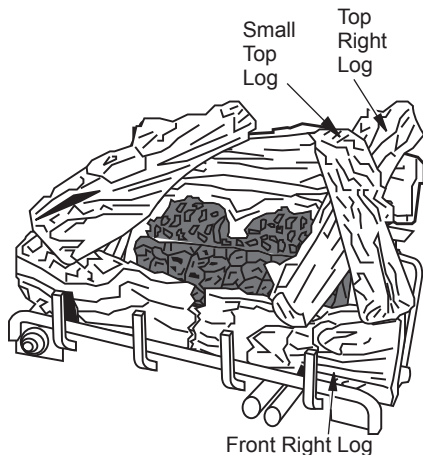

Figure 26 - Installing Log
6. Place the small top right log as shown in Figure 26. The bottom of the log is shaped to fit onto the recessed areas of the top right log and the front right log. The recessed areas are painted yellow.